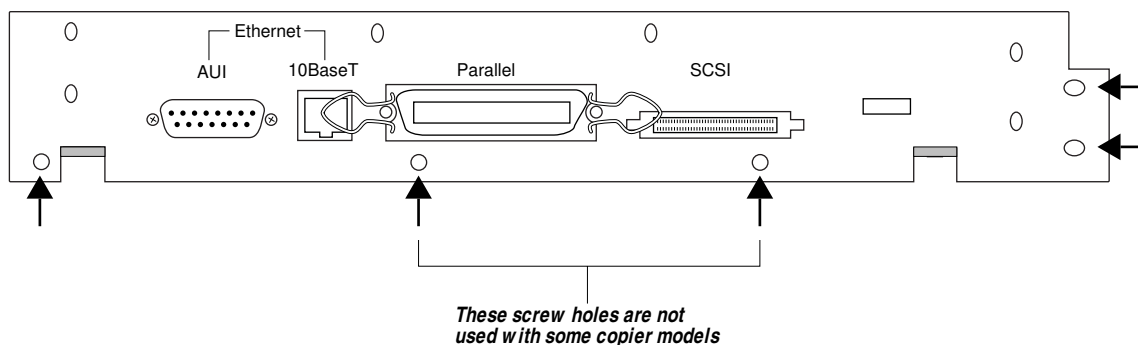

Figure 3-9 Installing screws in the faceplate
5. **Access the rear of the copier and insert the five screws that secure the faceplate to the copier (see Figure 3-9).**